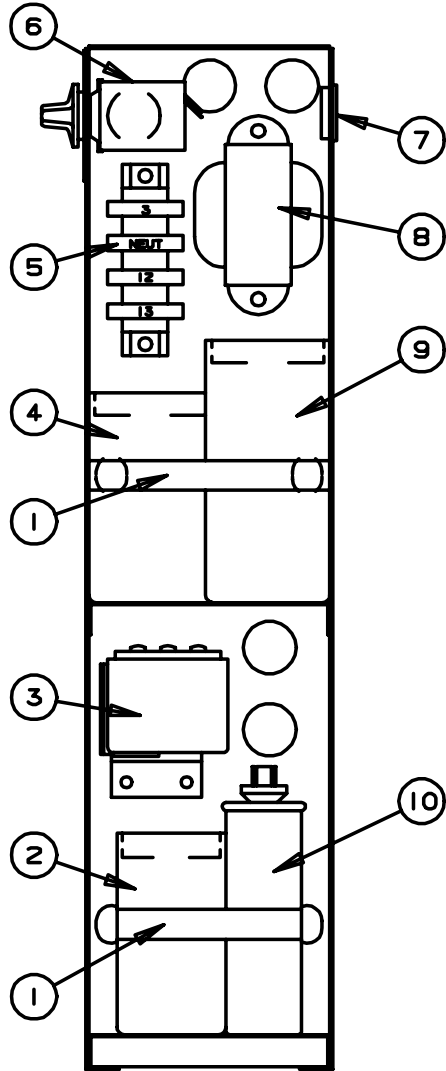

Figure 5 Capacitor/Relay Box
- Figure 5 Capacitor/Relay Box 4